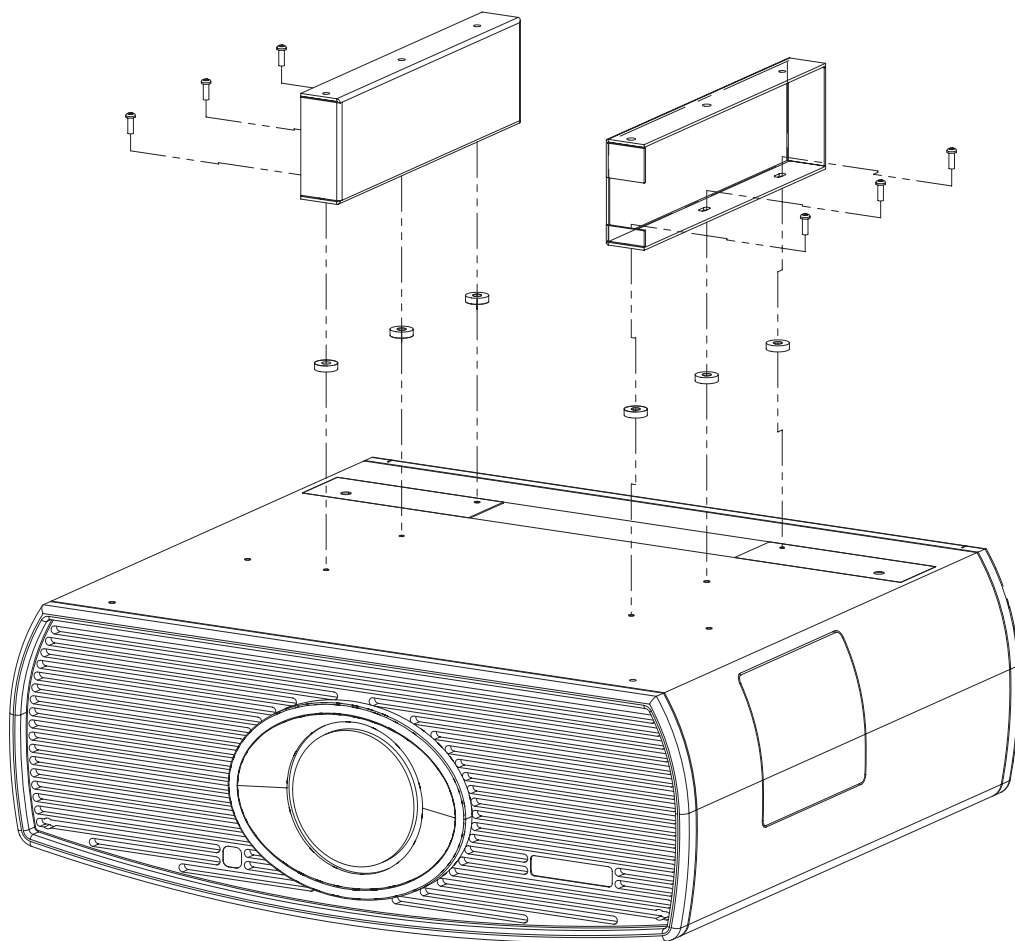

Figure 3-6. Vision 50 with Ceiling Mount Adapters/Projector Stands
Using six (6) each of the supplied, 10-32 x 1/2" Pan-Head Phillips screws (item #2) and nylon spacers (item #5), attach the AutoScope Ceiling Mount Adapters/Projector Stands (items #3 and #4) to the projector as shown in Figure 3-6.